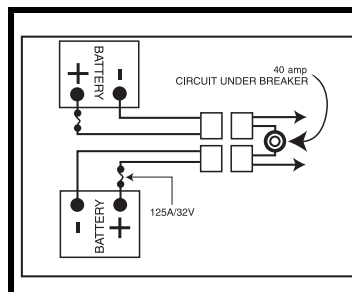

Figure 12A. Battery Cable Orientation
7. Connect the red battery cable to the positive (+) battery terminal. See figure 12A.
8. Connect the black battery cable to the negative (-) battery terminal. See figure 12A.